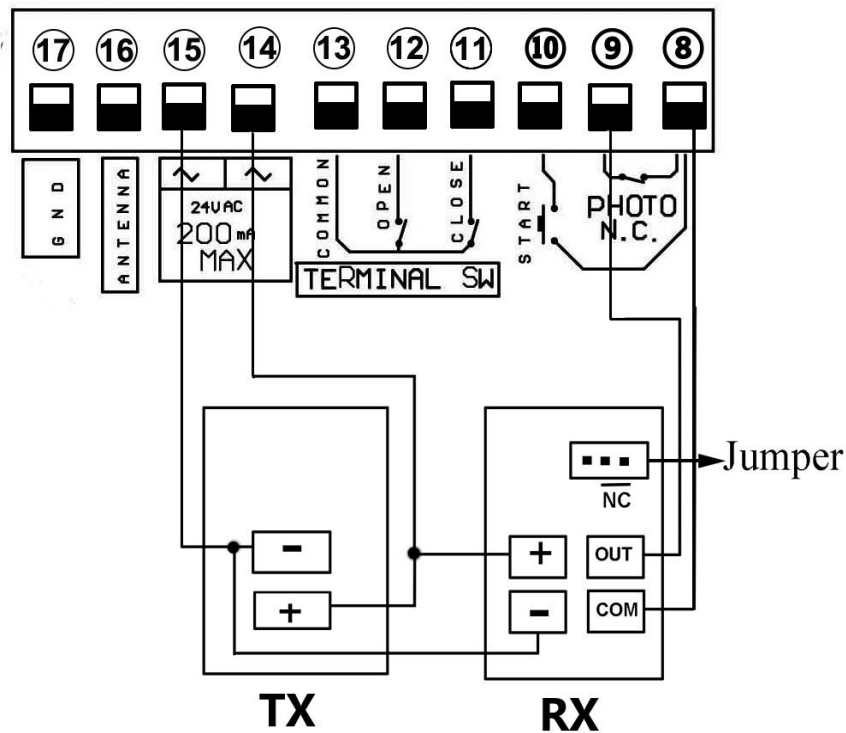

Fig 10
6.4. Connect to infrared sensor.(Please see Fig 10)
**Please note: 220VAC sliding gate control board is designed to connect NC model of photocell, So please keep the jumper on the NC, as picture Fig 10 shows!**